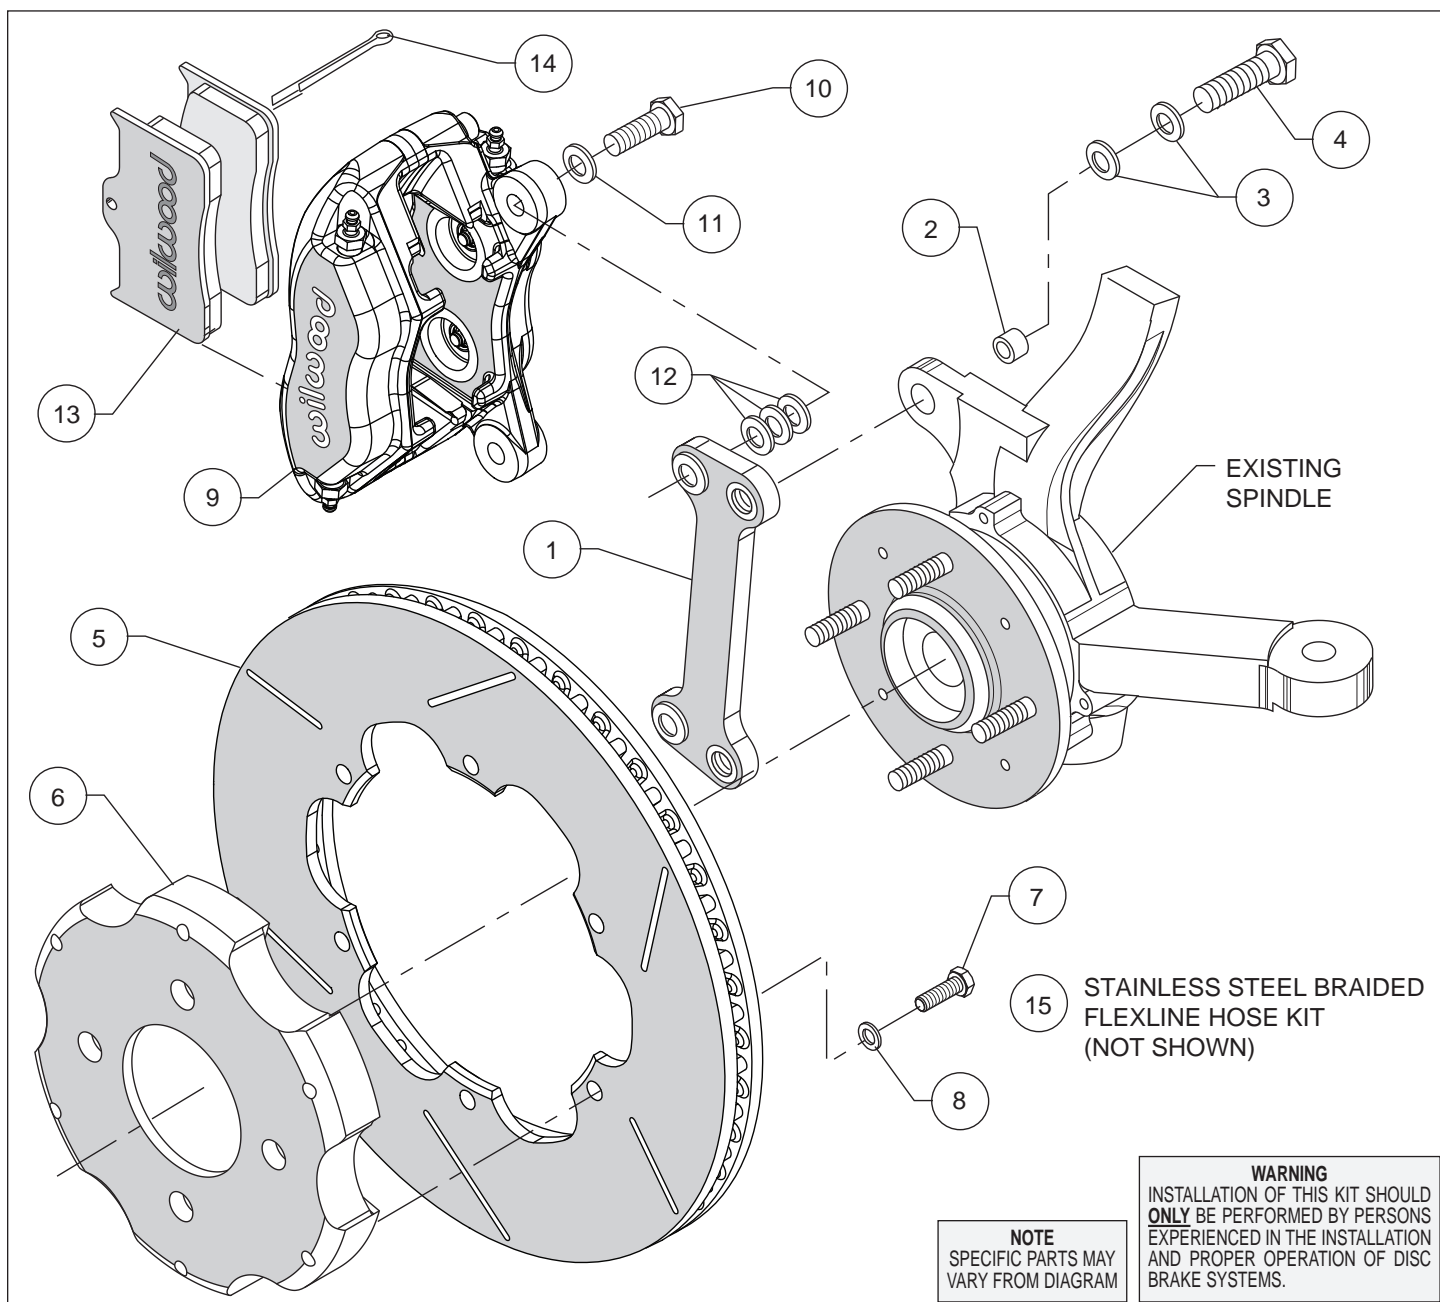
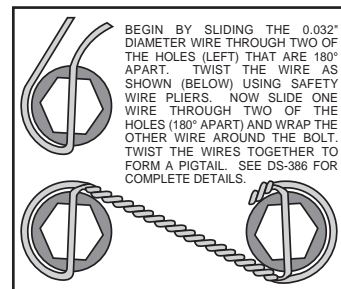
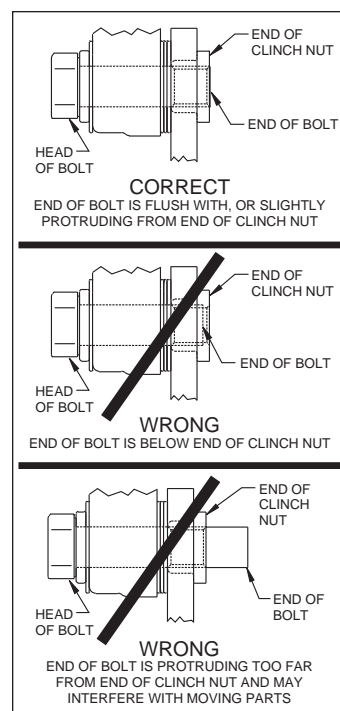

Figure 1. Typical Installation Configuration, Left Hand Application Shown
Figure 4. Safety Wire Diagram
Figure 5. Clinch Nut Engagement Diagram
Assembly Instructions (numbers in parenthesis refer to the parts list and Figure 1 on the preceding pages): **CAUTION:** All mounting bolts must fully engage clinch nuts. Be sure to check that all bolts are either flush or protruding through flanged side of clinch nut after shimming, Figure 5.
- Insert sleeves (2) into each of the two bracket mounting holes on the spindle "ears", Figure 1. Orient the caliper mount bracket (1) as shown in Figure 1, and install using bolts (4) and two washers (3). Ensure that the flanged heads of the clinch nuts in the bracket are facing outboard. Temporarily tighten the mounting bolts.
- Orient the rotor (5) and the hat (6) as shown in Figure 1 and Photo 1. Attach rotor to hat using bolts (7) and washers (8). Using an alternating sequence, apply red *Loctite*® 271 to the threads, and torque to 25 ft-lbs. Safety wire bolts using standard 0.032 inch diameter stainless steel safety wire as shown in Figure 4. Please refer to Wilwood's data sheet DS-386 for complete safety wire installation instructions.
- **NOTE:** Please reference the caution statement at the beginning of the assembly instructions. Mount the caliper (9) onto the caliper mounting bracket (1) using bolts (10) and washers (11), as shown in Figure 1. Initially place three .035" thick shims (12) on each bolt between the caliper and the bracket, Photo 2. Temporarily tighten the mounting bolts and view the rotor (5) through the top opening of the caliper. The rotor should be centered in the caliper, Photo 3. If not, adjust by adding or subtracting shims between the bracket and the caliper. Always use the same amount of shims on each of the two mounting bolts. **NOTE:** The end of each bolt must be flush with or slightly protruding from the head of the clinch nut, as shown in Figure 5.
If necessary place spare shims (12) between washer (11) and caliper mounting ear to achieve the proper clinch nut engagement. Once the caliper alignment and clinch nut engagement are correct, remove the bolts one at a time, apply red *Loctite*® 271 to bolt threads, and torque to 40 ft-lb. For an added measure of safety, bolts may be safety wired using standard 0.032 inch diameter stainless steel safety wire as shown in Figure 4. Please refer to Wilwood's data sheet DS-386 for complete safety wire installation instructions.